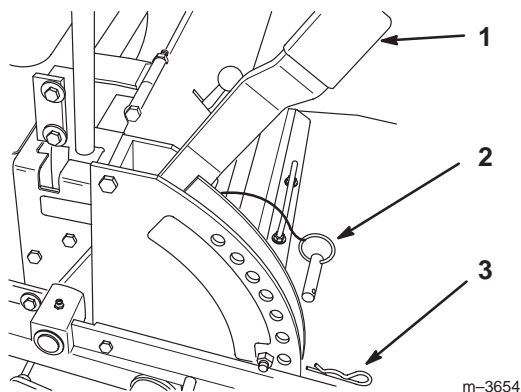

Figure 11
1. Raise the height-of-cut lever to the transport position (also the 4-1/2 inch (114 mm) cutting height position) (Fig. 11).
2. To adjust, remove the hairpin cotter and clevis pin from the height-of-cut bracket (Fig. 11).
3. Select the hole in the height-of-cut bracket corresponding to the height-of-cut desired, and insert the clevis pin (Fig. 11).
- Secure the clevis pin with the hairpin cotter (Fig. 11).